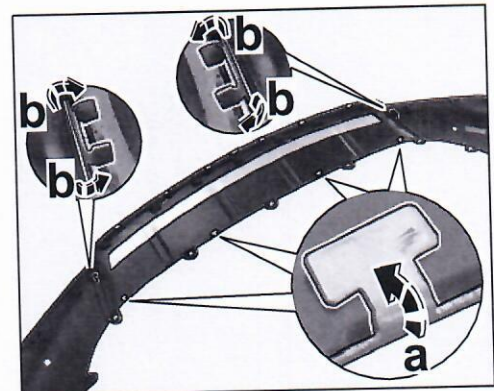

Figure 10
2.4.1 Bend the rear holders by 180° (\Rightarrow Figure 10 -arrow a-).
2.4.2 Bend the tabs on the two outer retaining pivots over by approx. 90° (\Rightarrow Figure 10 -arrows b-).